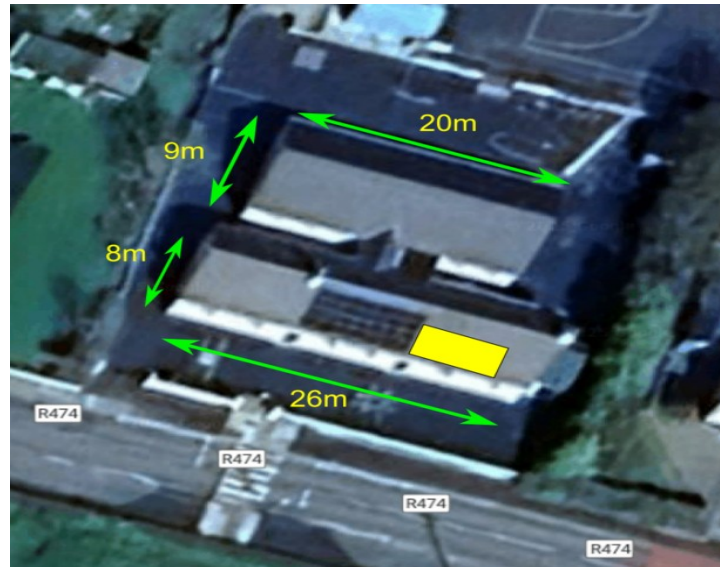

Figure 3: Proposed location of Solar PV system
- the area with the yellow marker in Figure 3 would allow for a potential 4 kW of additional Solar PV panels.